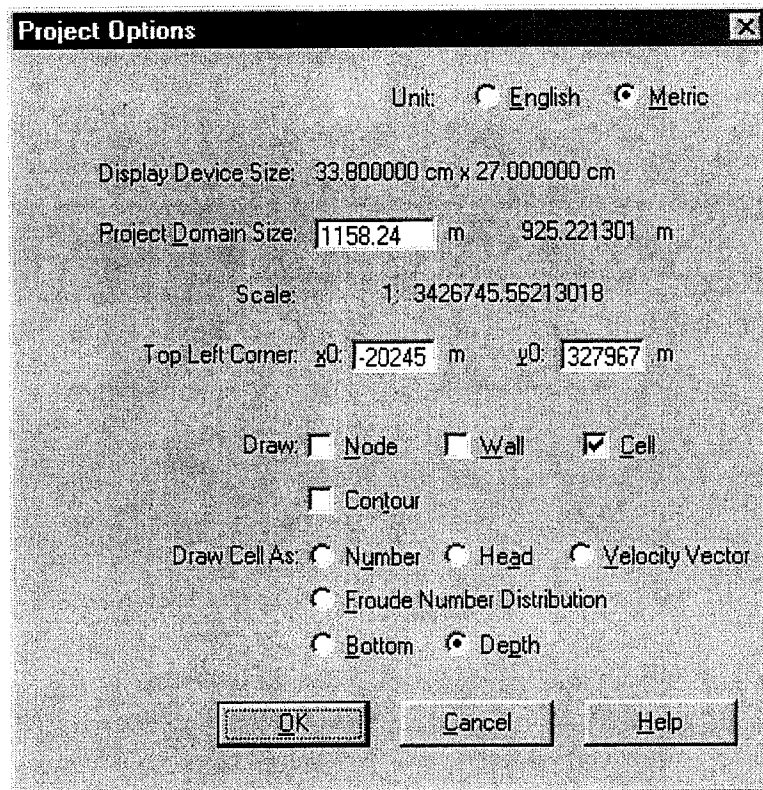

Fig. 5. 3. Project Options Dialog Box
1. Click the **Project | Options** command to bring up the **Project Options** dialog box (see Fig. 5. 3).